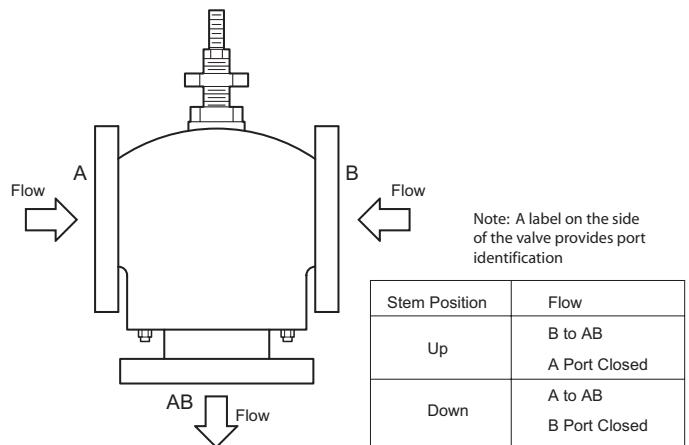
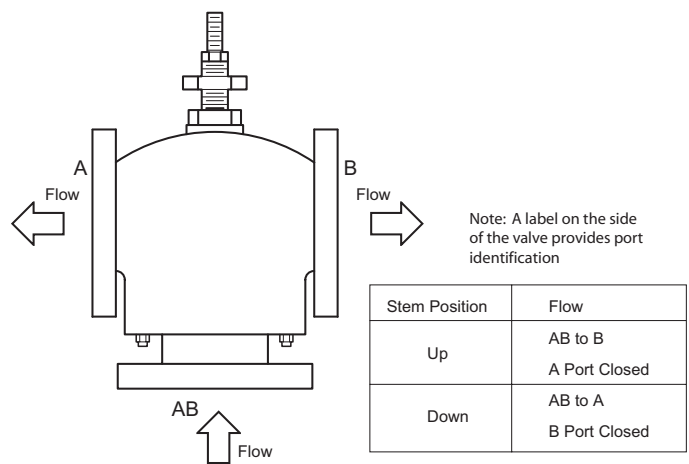

Figure-3 VB-8303 Piped as Mixing Valve
Figure-4 VB-8303 Piped as Diverting Valve
- Install the valve with the flow in the proper direction. See Figure-3 and Figure-4.
3. Pipe the valves with two inlets (“A” and “B” ports) and one outlet (“AB” port) for mixing applications. Pipe with one inlet (“AB”) and two outlets (“A” and “B”) for diverting applications. See Figure-3 and Figure-4.
- a. Drive the actuator and run the valve to the stem down position. Make sure the linkage and valve stem move freely. Consult Figure-3 (mixing) or Figure-4 (diverting) for proper flow in the stem down position.
- b. Drive the actuator and valve to the stem up position. Again, the valve stem and linkage should operate smoothly. Consult Figure-3 (mixing) or Figure-4 (diverting) for proper flow in the stem up position. After the valve linkage and the actuator are installed, check their operation.